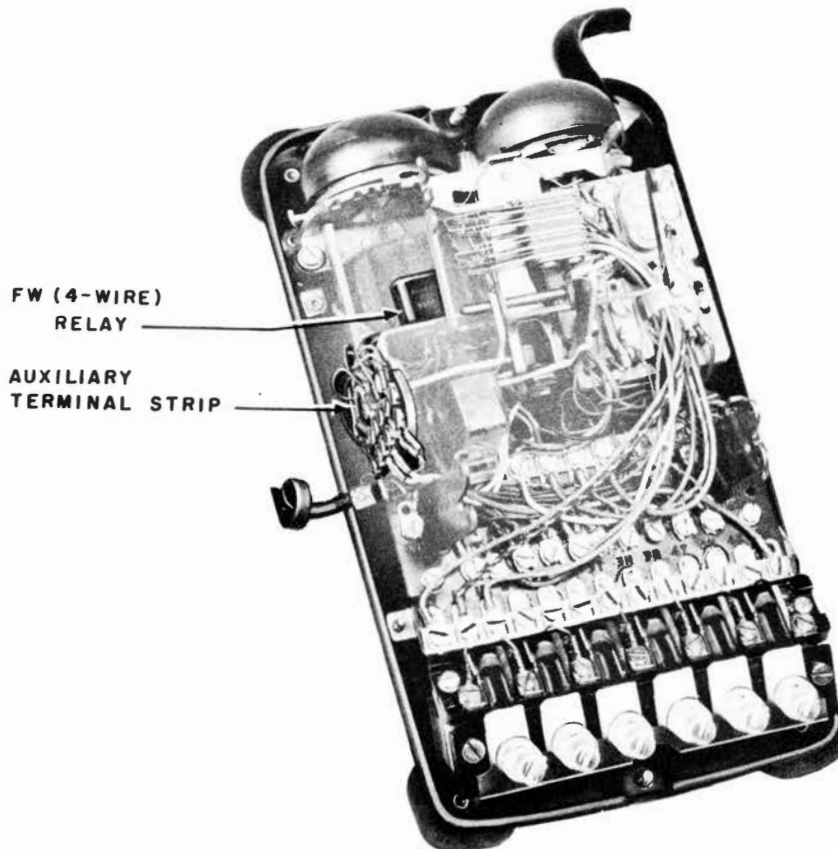

Fig. 4 - Base of 568-Type Set, Dial Removed
3.08 When 568-type sets are connected to a 4-wire line, the FW (4-wire) relay (see Fig. 4 and 5) operates and disconnects the receiver from the 425E network. A repeating coil in the associated line circuit matches the receiver to the receiving loop to obtain a true 4-wire termination. The